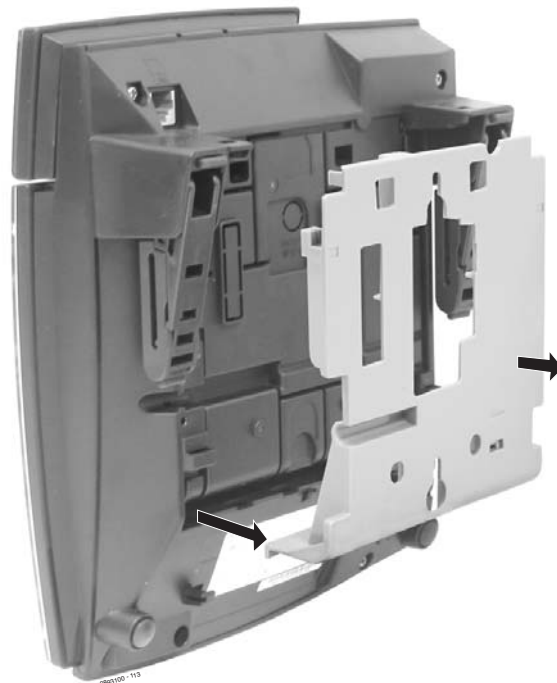
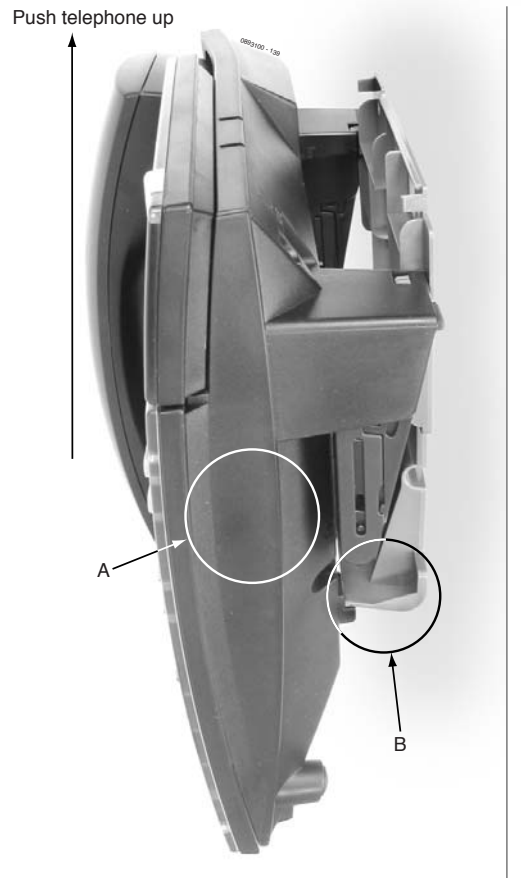

Figure 4-83: REMOVING THE WALL-MOUNT BRACKET
**Figure 4-89: COMPLETED WALL-MOUNT BRACKET INSTALLATION**
#### Installing the Wall-Mount Handset Bracket (Figure 4-83 - Figure 4-89)
1. Remove the integrated wall bracket from the bottom of the phone. Refer to Figure 4-83.
4. After removing the integrated wall bracket from the bottom of the phone. (Figure 4-83), attach the wall bracket to the wall using three screws (in the positions indicated below) to the desired wall location.
5. Attach the phone to the wall-mount bracket by inserting the bottom hooks (indicated by “A” in Figure 4-87 *BRACKET HOOKS* on page 4-82) on the bracket into the back of the phone (Figure 4-89).